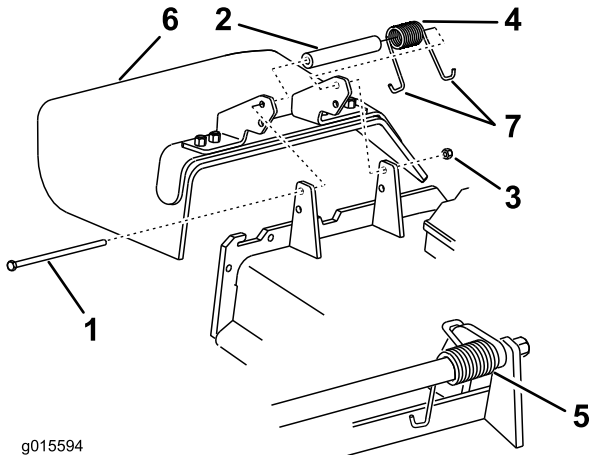

Figure 62
1. Remove the locknut, bolt, spring and spacer holding the deflector to the pivot brackets (Figure 62).
Note: Make sure one **J** end of spring is installed behind deck edge before installing the bolt as shown in Figure 62.
6. Place one **J** hook end of spring around grass deflector (Figure 62).